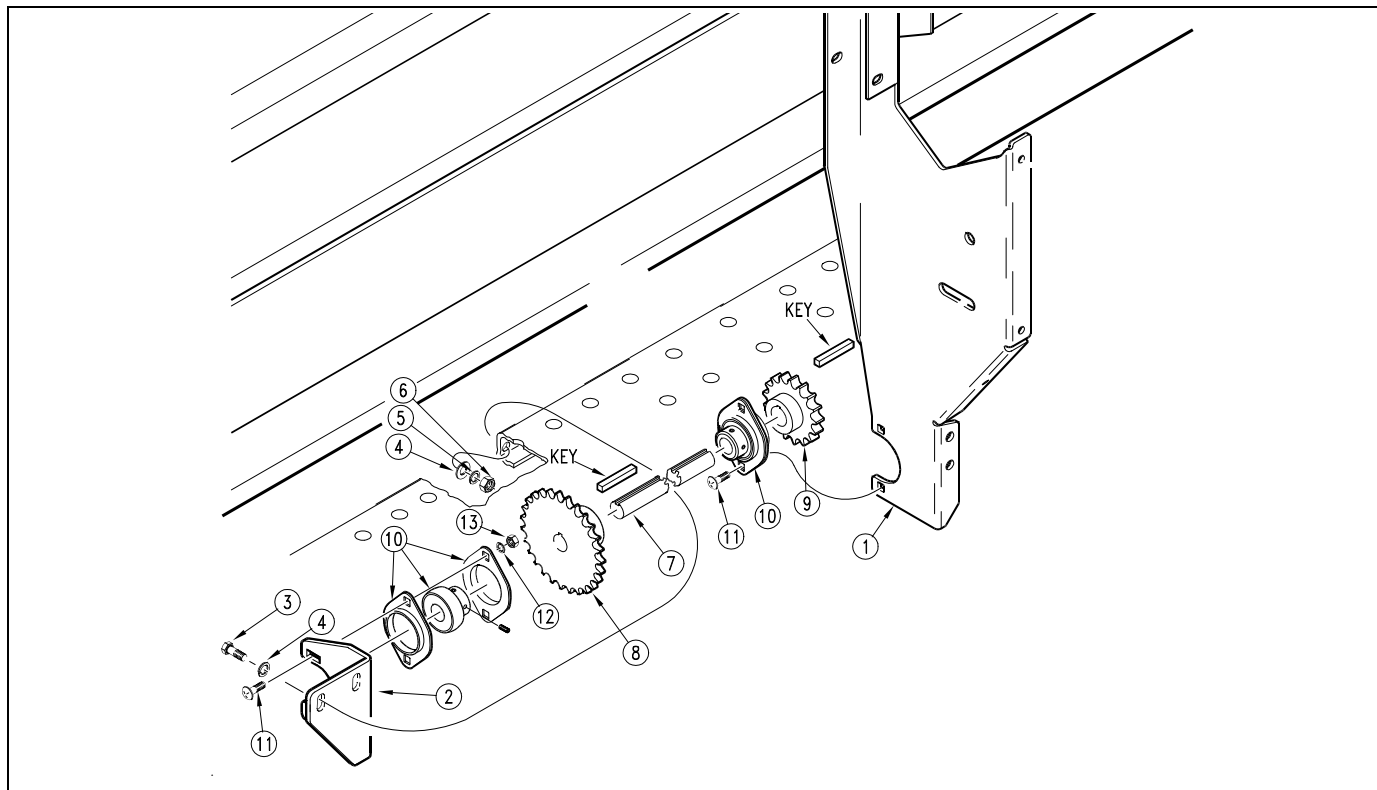

Figure 6
Refer to Figure 6
Assemble the rear jack shaft (7), sprockets (8) and (9), and bearings (10) to the mounts as shown in Figure 6. Be sure the blind key way end of the shaft is located toward the outside mounting bracket and the sprockets are on the correct ends of the shaft. Align the jack shaft sprocket (8) with the 19 tooth sprocket on the Drive Assembly.